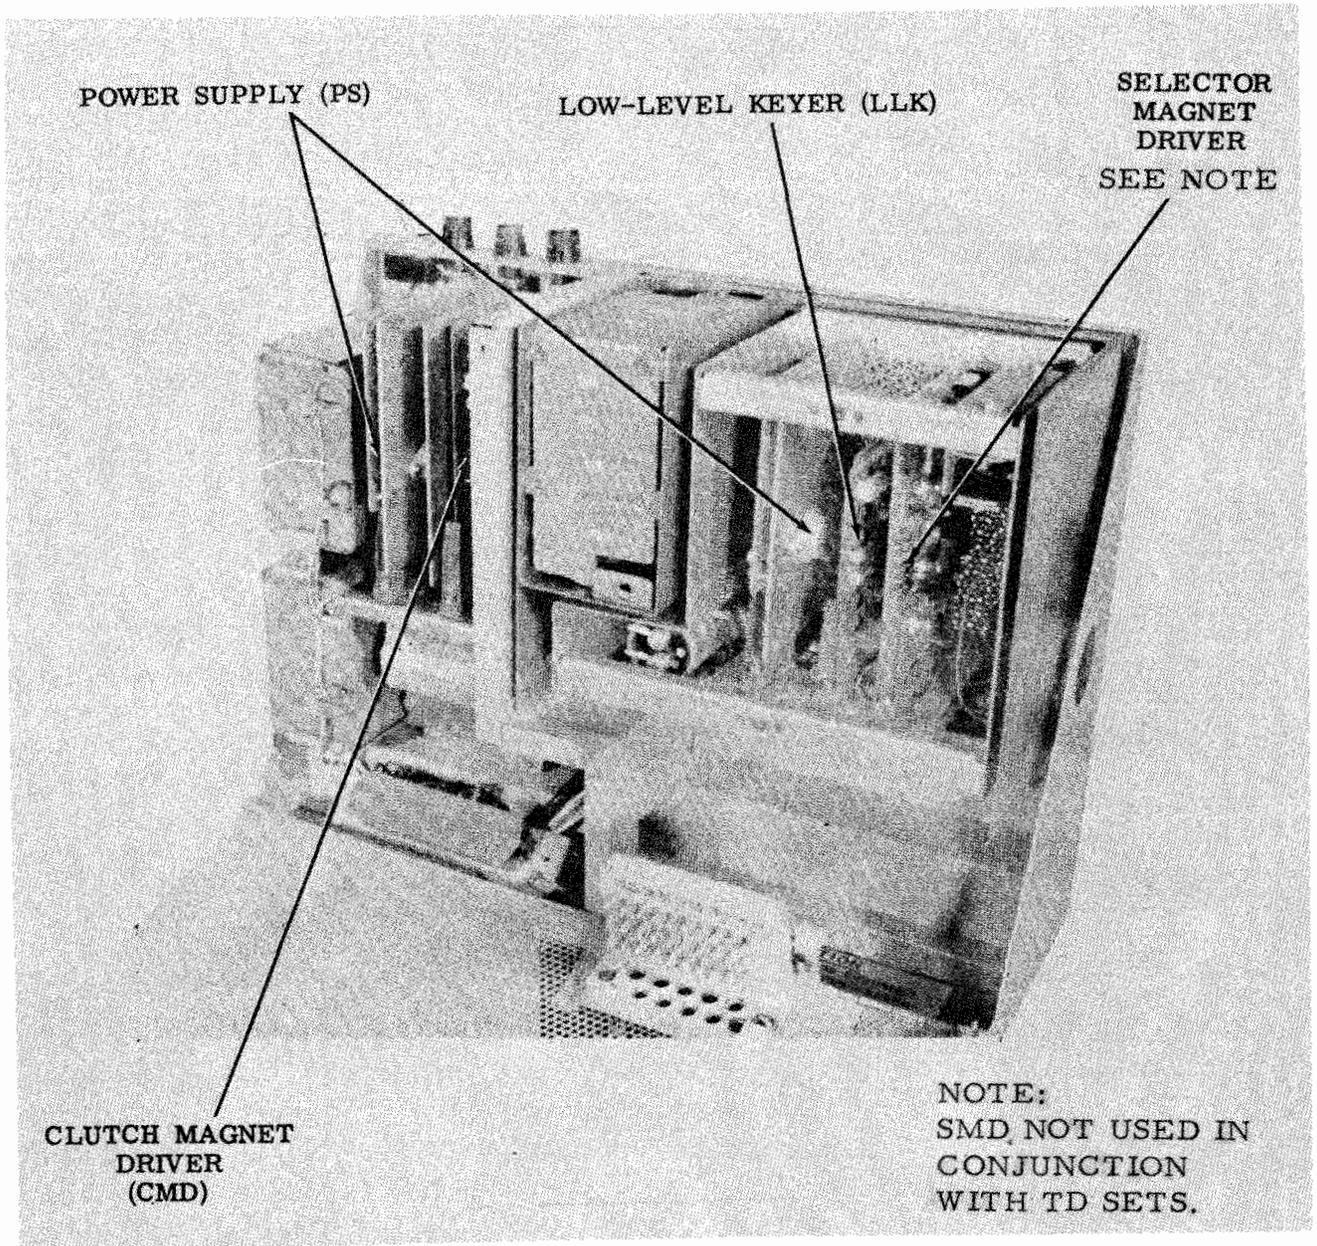

Figure 3-22. ESA Showing Typical Circuit Cards
(2) ESAs which house LLK circuit cards (figure 3-22) require double-shielded box construction (figure 3-23, 2 sheets). An inner aluminum box functions as an electrostatic shield and is electrically isolated from an outer box which serves as a magnetic shield. CMD circuit cards do not require a double box construction. Single box construction is adequate for the CMD and serves as a combined electrostatic-magnetic shield.
(3) The inner box contains a mounting plate with printed circuit board connectors to accommodate a power supply printed circuit board assembly and the required number of CMD and LLK circuit cards. A screw terminal strip is provided for